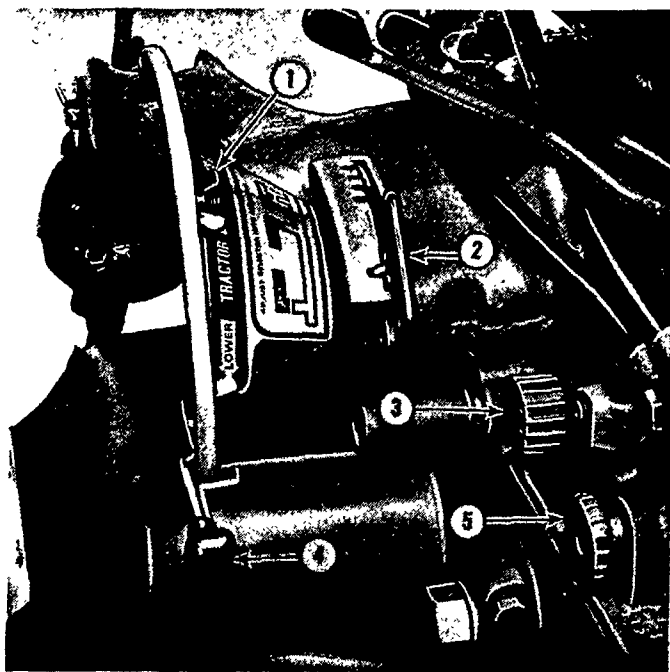
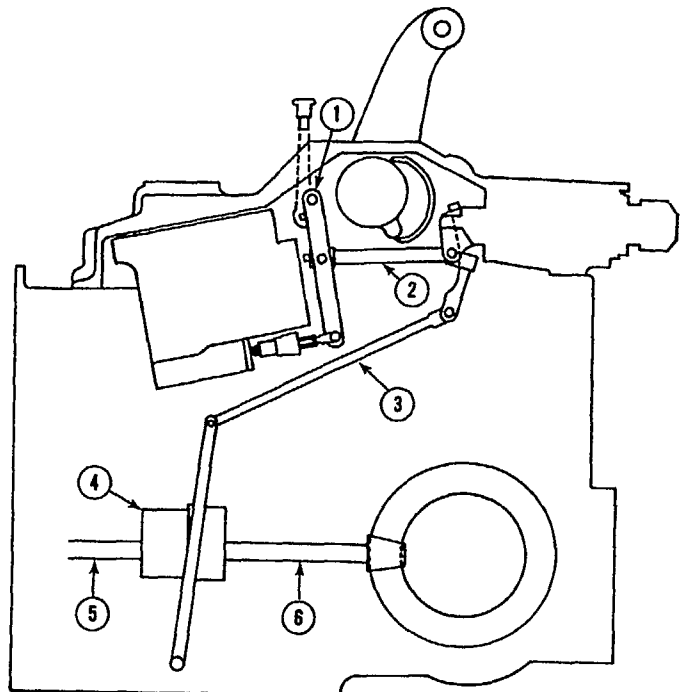
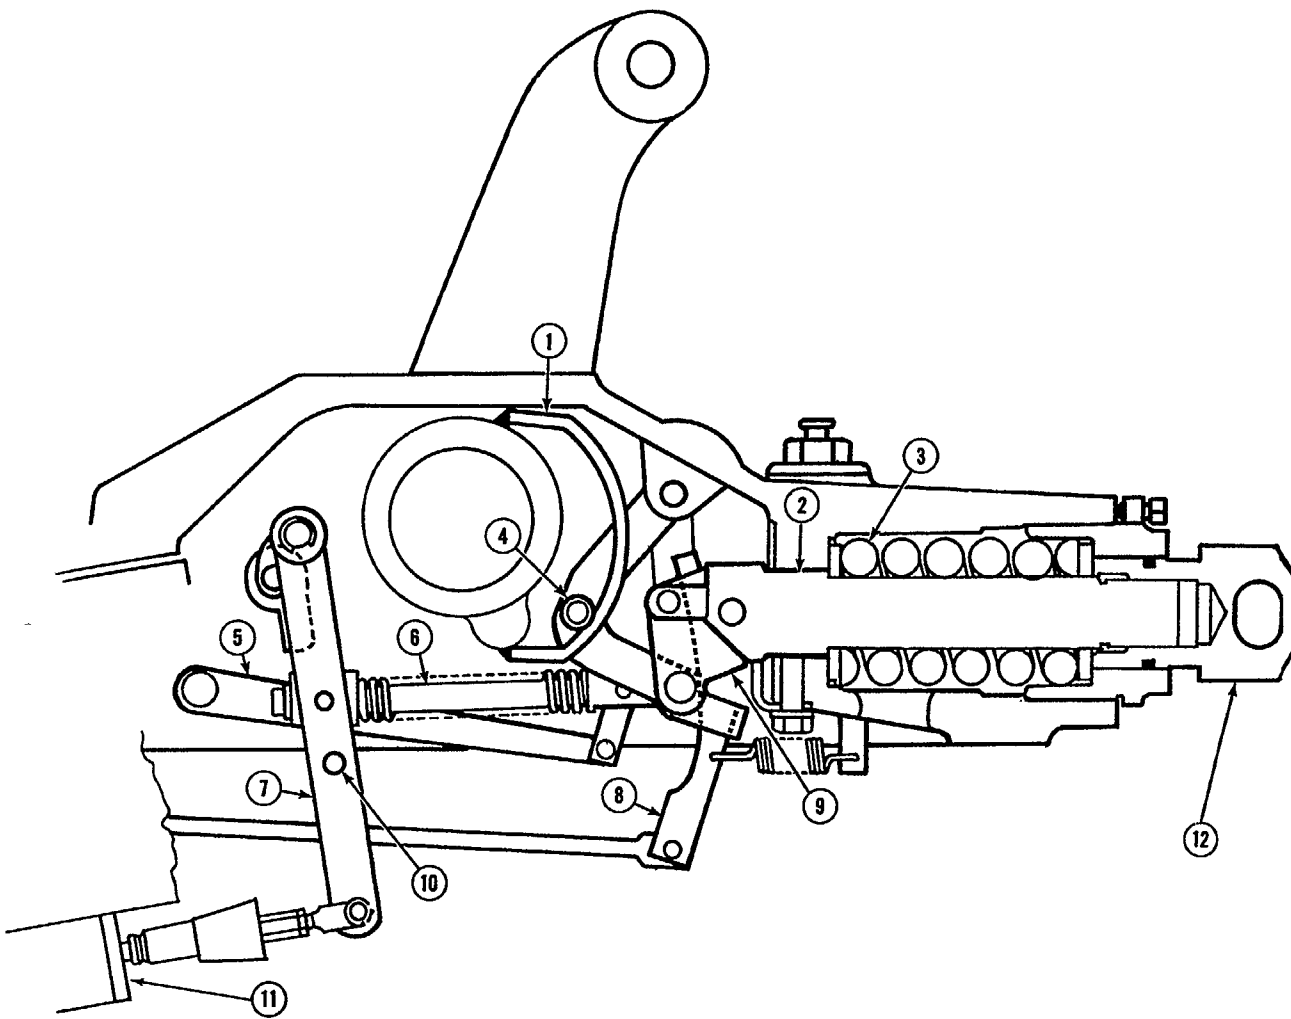

Figure 2
Figure 3
Figure 4
section. Figure 2 illustrates the external controls of the hydraulic system. Figure 3 illustrates the location of the Load Monitor torque sensing unit with respect to the remainder of the tractor.
The lift control lever (4), Figure 2, is the primary control of the hydraulic system. Moving the lift control lever upward on the quadrant initiates the sequence of events that result in the lift arms raising. Similarly, moving the lift control lever downward on the quadrant results in lowering of the lift arms. The following paragraphs describe this action.
Any movement of the lift control lever is transferred through its pivot to the actuating lever (7), Figure 4, located inside the lift cover. This actuating lever is attached to the lift control valve at its opposite end and is pivoted near
The system selector lever (2), Figure 2, is used to select the source of the signal which activates the hydraulic system. The selection of the signal source is accomplished by pulling the selector lever slightly upward and moving it to the setting which corresponds to the signal source desired. As the selector lever is moved to a particular setting, the motion is transferred by means of a clevis link to the shorter end of the selector arm (5), Figure 4, the opposite (longer) end of which is connected to the control rod and roller assembly (6), Figure 4. When the selector lever is moved, the selector arm raises or lowers the control rod so that the roller is aligned with that portion of the selector linkage assembly (8) and (9), Figure 4, which
upper link. This pushing force is transmitted through the upper link to the draft control plunger (2), Figure 4. Upon overcoming the force of the draft control mainspring, the draft force produces movement of the yoke, which in turn moves the upper portion of the selector linkage assembly (9) forward, pushing on the control rod (6) to transmit the signal to the actuating lever. When the draft load is decreased by the implement raising slightly, the draft control mainspring forces (pushes) the yoke back to its original position, drawing the upper portion of the linkage assembly back with it. The compressive force is now removed from the control rod spring, and it neutralizes at its free length. The light rate control valve follower spring can now push the control valve spool to neutral.
The only activating signal in position control is derived from manual movement of the lift control lever. When the system selector lever is set for position control, the control rod is positioned with the roller aligned with the center pivot of the selector linkage assembly. Therefore, no effect of movement of the upper or lower portions of the selector linkage assembly is transmitted to the lift control valve. When a lift action is initiated by moving the lift control lever upward on the quadrant, the actuating lever moves the lift control valve spool as previously described to effect a raising of the lift arms. In this action, the position control cam (1), Figure 4, rotates with the lift arm cross shaft to which it is attached. The position control link roller (4), which rides inside the cam, is permitted rearward movement by the cam as the lift arms reach the height which corresponds to the position of the lift con-
The lower portion of the linkage assembly (8), Figure 4, is connected by means of a strut to the torque sensing unit. Thus, variations in torque in the driveline are transmitted to the lower portion of the selector linkage assembly. The control rod and roller assembly (6), can be set at three locations along the lower portion of the selector linkage assembly so that the same amount of change in torque can produce three magnitudes of signal to the hydraulic system. The lower the control rod roller is with respect to the selector linkage assembly, the greater the magnitude of signal desired. When torque is increased, the signal is transmitted through the control rod to the actuating arm to move the spool of the lift control valve, resulting in raising of the tractor lift arms. When the torque is decreased, the lower portion of the linkage assembly moves back away from the control rod allowing the remainder of the linkage to return to neutral. At any time that the tractor lift cylinder reaches the limit of its travel, it contacts a stop pin (10), Figure 4, which is attached to the actuating lever; which moves the actuating lever rearward and thus moves the lift control valve spool to neutral, stopping the flow of oil to the lift cylinder.